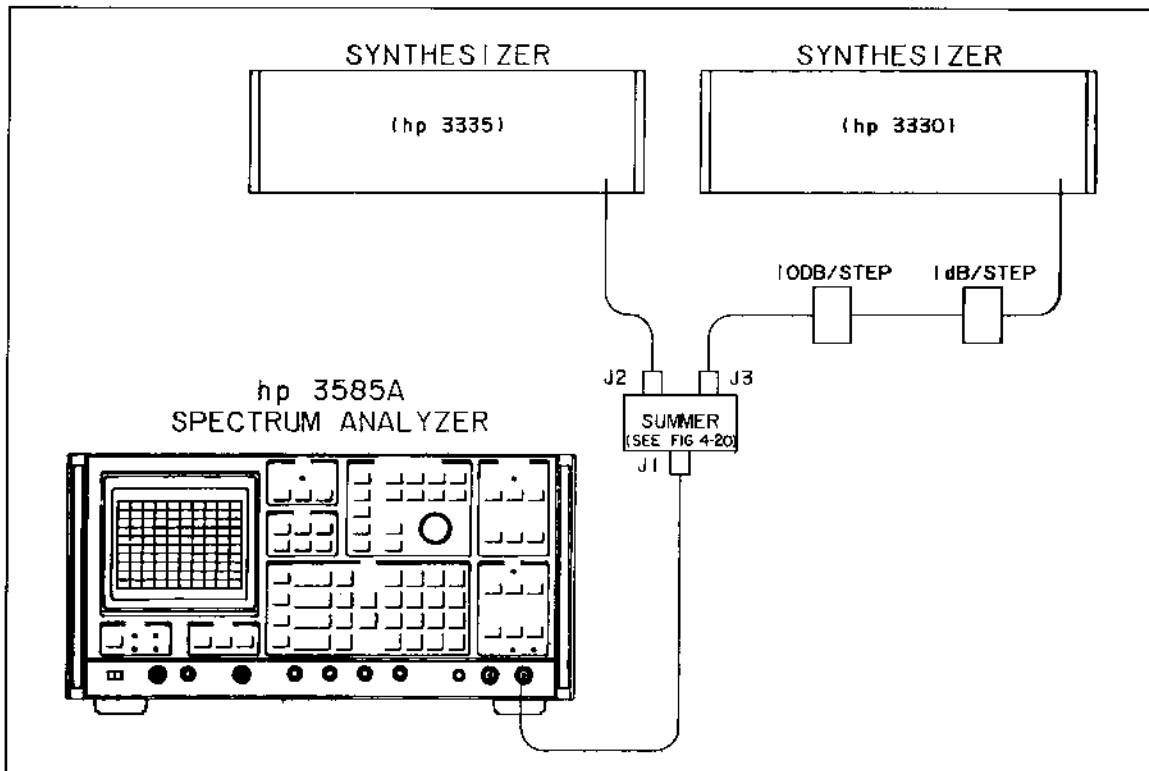

Figure 4-5. Intermodulation Distortion Test
- b. Connect synthesizer #1 and #2 to the summer as shown in Figure 4-5. Connect the output of the summer to the 50Ω input of the 3585A. Set the attenuators for 0 dB of attenuation. (See Figure 4-20 for the Summer Schematic.)